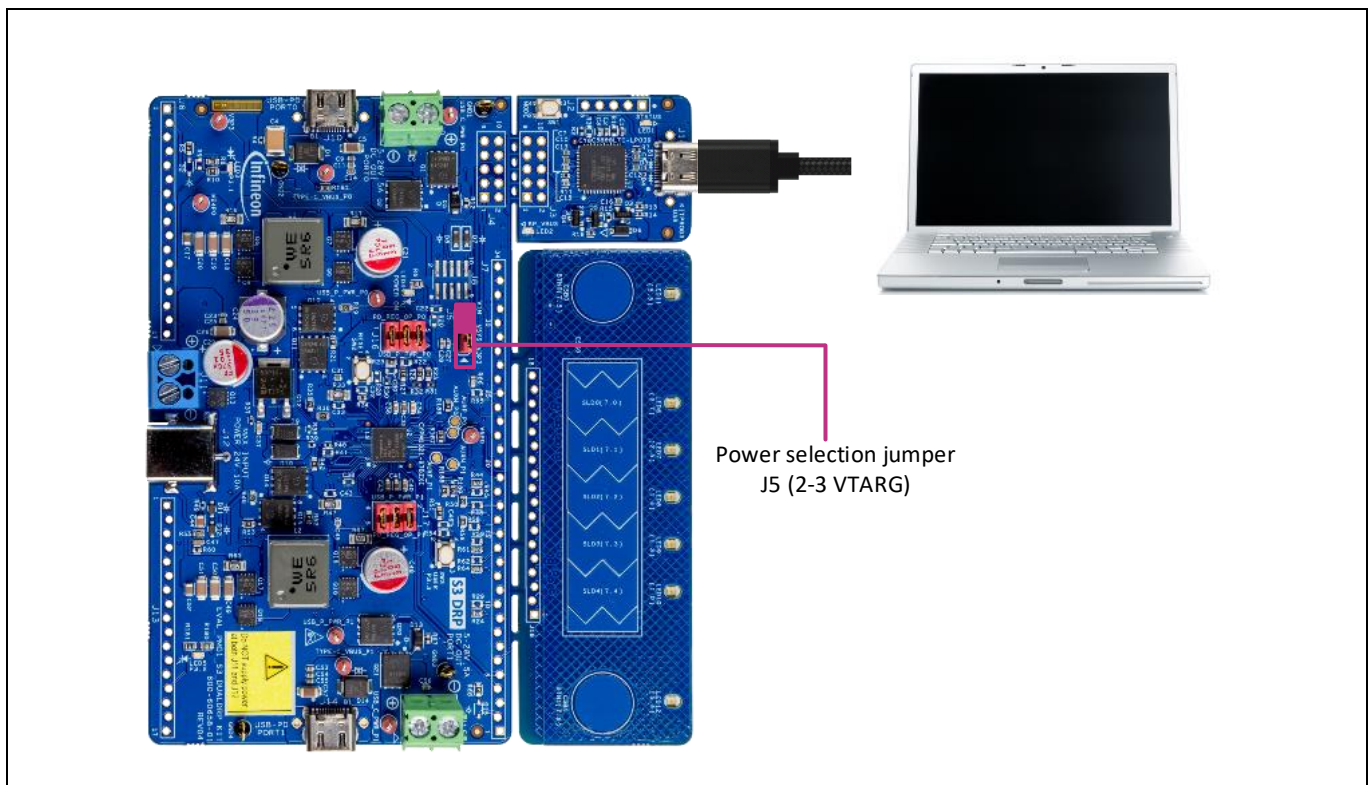

Figure 21 Programming through the KitProg3 interface
KitProg3 is a PSoC™ 5LP MCU-based onboard programming and debugging solution integrated with the EZ-PD™ PMG1 MCU prototyping kits. You can program and debug the kit without using any separate programming and debug module. Connect the kit to the PC using the programming connector as shown in Figure 21.
2. Connect the kit to the host PC through the KitProg3 connector. See Figure 21 for the setup.